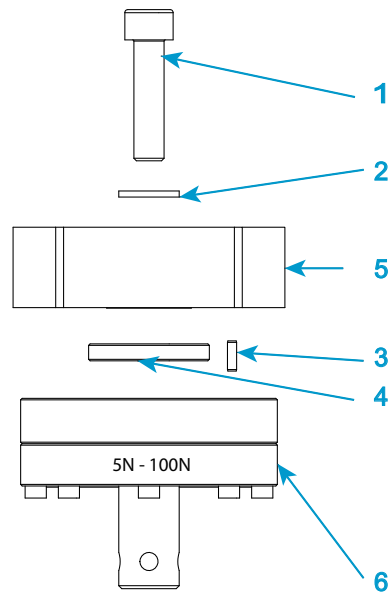

Figure 15. Install a 2530 series load cell - capacities 5 N through 100 N
Legend for Figure 15
1. Refer to Figure 15 on page 82 and its associated legend.